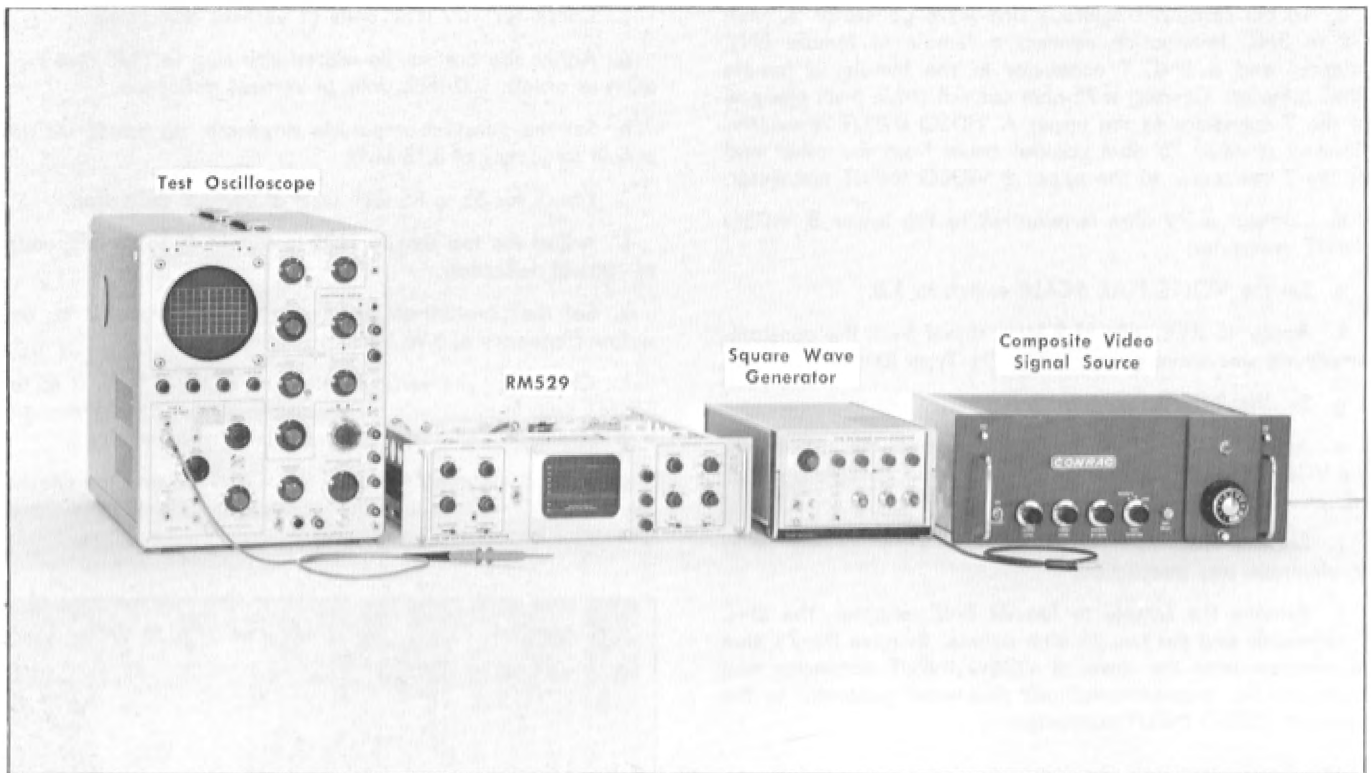

Fig. 6-37. Test equipment required for steps 31 and 32.
- a. Test equipment setup is shown in Fig. 6-37.